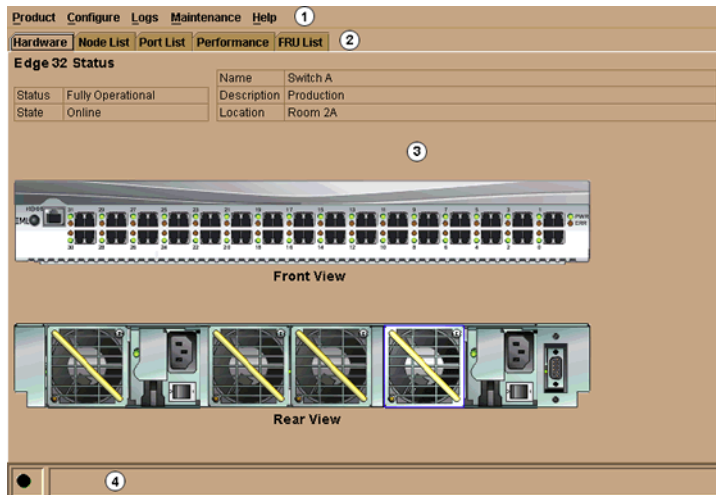

Figure 3–11: Hardware View
The Hardware View (Figure 3–11) displays a representation of and associated information about a specified switch. This information is useful to maintenance personnel for port-specific fault isolation and repair verification, link incidents, and port segmentation problems.
- Port operational state information from the Port Properties dialog box (Figure 3–12).
Click the port connector (leftmost port) to open the Port Properties dialog box (Figure 3–12).